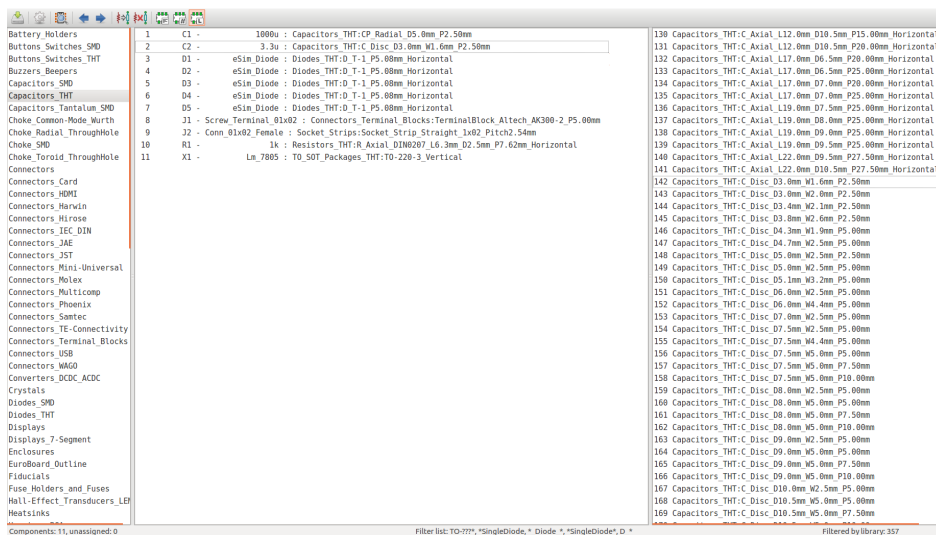

Figure 12.8: Footprint mapping completed for the circuit
2. Similarly choose the footprints per Fig. 12.8 where the footprint association for all the footprints is shown in Fig. 12.8. Save the footprint association by clicking on the Save footprint association in schematic component footprint fields tool from the CvPcb toolbar.